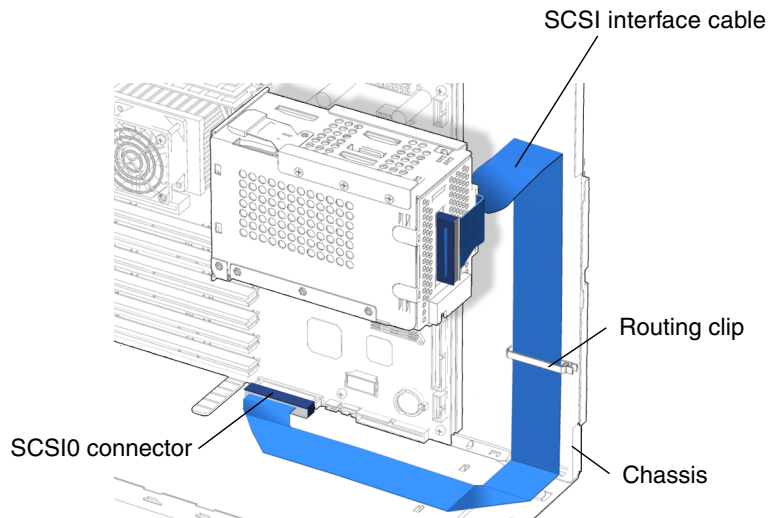

FIGURE 14-16 Routing the SCSI Interface Cable Through the Chassis
2. Route the interface cable through the chassis (FIGURE 14-16).